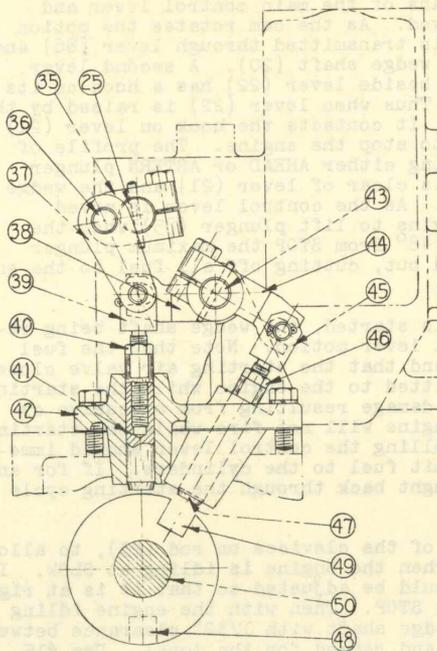

FIG. R-4
The latch shaft interlock is shown in Fig. R-4. The two plungers (41) and (47) are located fore and aft so that they are in line with adjacent latch shaft webs, and they engage slots (48) and (49) cut in the respective webs. These plungers are interconnected by rockers (38) and (44) and shaft (43), the whole assembly being mounted in bracket (42) on top of the latch box, just aft of the control unit. The device is operated from the main control shaft in the control unit by means of shaft (25), to the far end of which a helical gear, ((24) in Fig. R-1) is keyed and clamped, which gear in turn meshes with a similar gear ((19) in Fig. R-1) on the control shaft. Shaft (25) carries crank (35) on its overhung end, and pin (36) in the crank is connected through link (37) and fork (39) to plunger (41).
For plunger positions shown in Fig. R-4, the control handle is at STOP, the latch shaft is in AHEAD position, slot (49) registers with plunger (47), slot (48) is
Set latch shaft at some intermediate position, and move control lever in AHEAD direction until latch pin (5) (Fig. R-1) drops into the slot in latch plate (6). Position lever so that pin is about  $1/8"$  from upper end of slot, and then adjust plunger (47) (Fig. R-4) relative to fork so that end of plunger bears against latch shaft web. This will allow some clearance between plunger and web when latch pin bears against upper end of slot. Repeat adjustment on plunger (41) for reverse, and tighten jam nuts to lock plunger adjustments. Interlock bracket (42) (Fig. R-4) is doweled to the latch box, and if replaced the new assembly must be located so that the plungers will enter the slots in the latch shaft webs before drilling the new dowel holes.
$180^\circ$  out of register with plunger (41), and both plungers are up clear of the latch shaft webs so that the latter is unlocked and free to turn. Assume now that the control lever is moved in the AHEAD direction. The hand of the helical gears is such that shaft (25) will be rotated clockwise as viewed in Fig. R-4, which will lift plunger (41) through the action of crank (35) and link (37). Plunger (47) will be lowered at the same time, through the interconnection of the rockers (38) and (44) and shaft (43), and will enter slot (49) in the latch shaft web, thereby locking the shaft in the AHEAD position and preventing its shifting to any other position.